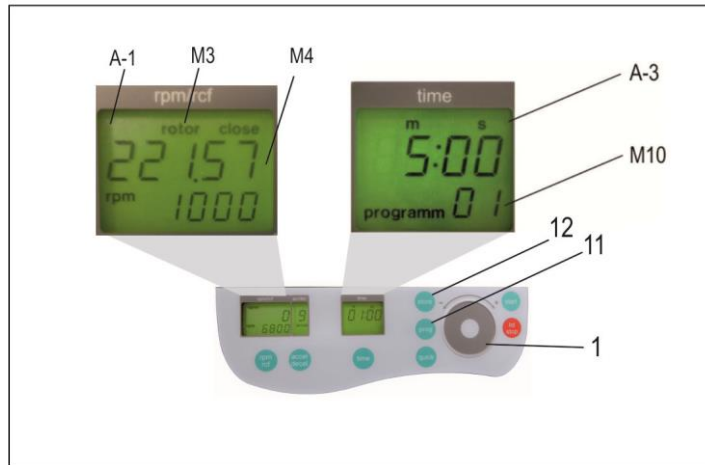

Figure 16
Put the rotor into the centrifuge. By pressing the key, "prog" (11), in the display "time" (A-3) appears the word "program", (see Figure 16). With the control field (1), choose the desired program number.